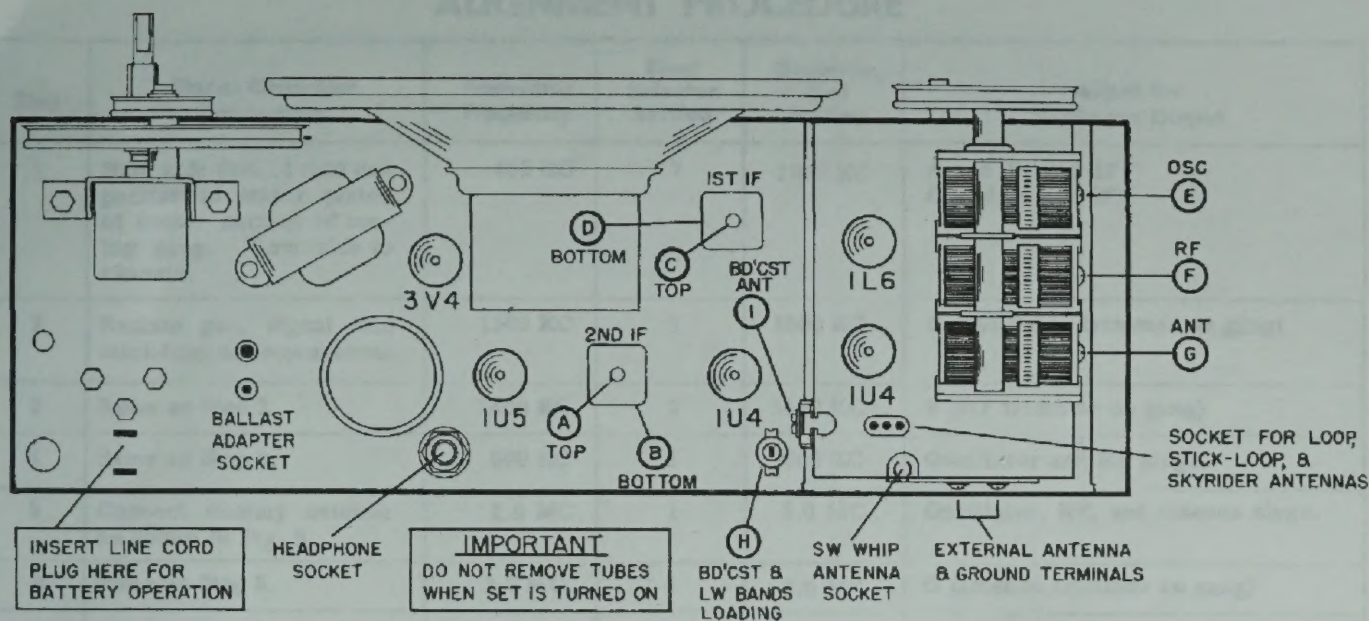

Fig. 4. Top View of Chassis Showing Location of Alignment Adjustments and Tubes
- Refer to Figs. 4 and 7 for location of alignment adjustments. The alignment adjustments are also shown on the schematic diagram.